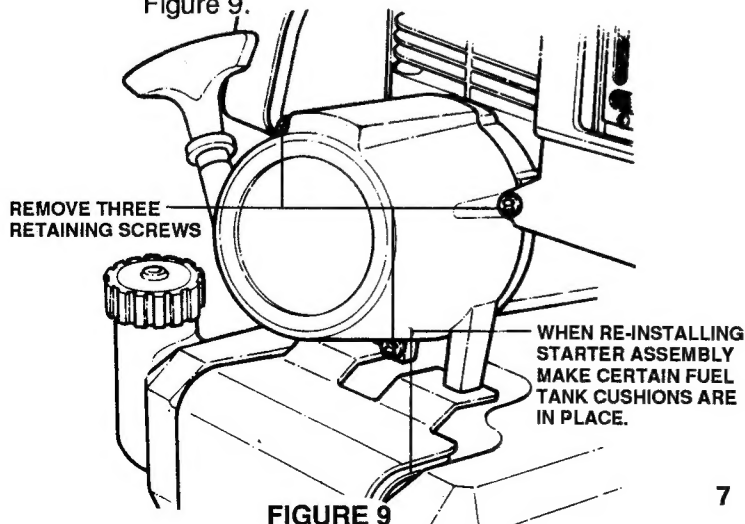

FIGURE 9
2. To service the plastic starter, remove the three retaining screws, one of which is the muffler shield screw. The starter housing in conjunction with a cast section on the crankcase form the fuel tank brackets. Both areas must be covered with appropriate tank cushions as shown. See Figure 9.
4. While the starter mechanics on the metal starter are the same as the plastic starter, the fuel tank bracket assemblies are very different. The metal starter and brackets are shown here in order of disassembly. Refer to Figure 9.
1. Remove the starter assembly as explained earlier. Gently pry off the fuel line. Refer to Figure 9, page